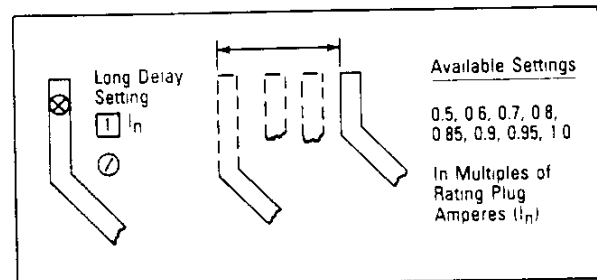

Fig. 6.1 Long Delay Ampere Pickup Settings
The available settings, along with the illustrated effect of changing the settings, are given in Figs. 6.1 through 6.7.
Eight (8) available settings, as indicated in Fig. 6.1, range from 0.5 to 1.0 (I_N). Each setting is expressed as a multiple of the maximum ampere rating (I_N) of the installed rating plug.